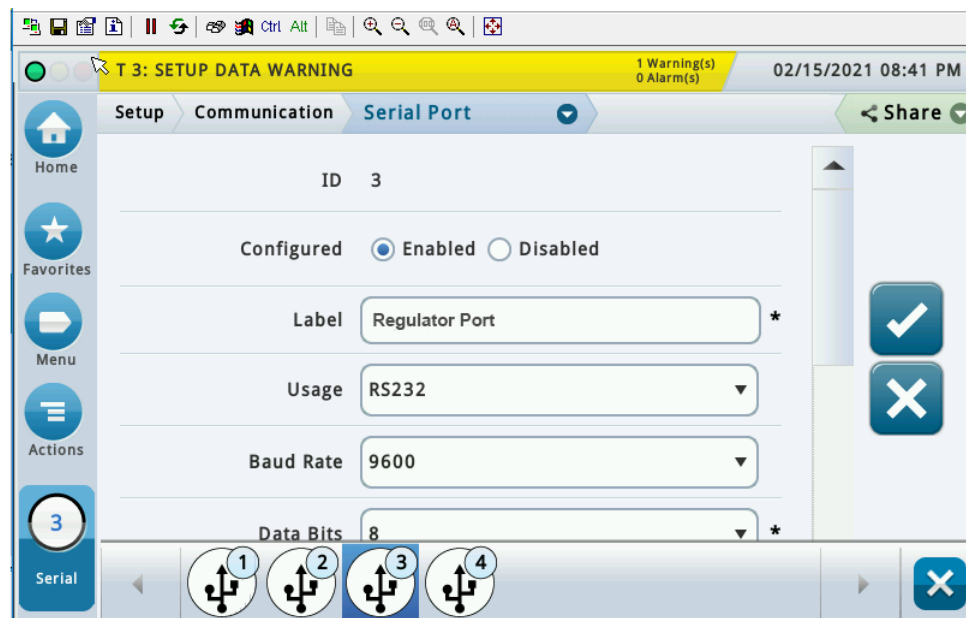

Figure 87. Example Serial Port Setup Screen
1. On the TLS-450PLUS touch Menu>Setup>Communication>Serial Port. Use the required ISD dedicated Comm port, e.g., select serial port 3 (Figure 87).